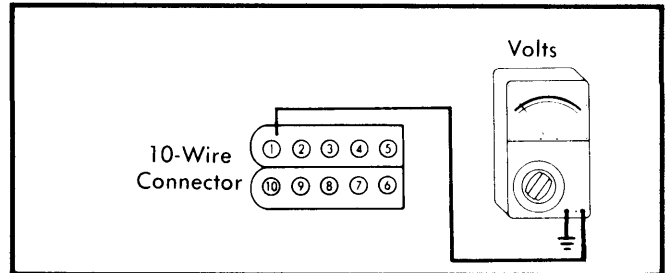

Fig. 8 Voltmeter Hook-Up for Checking Terminal 1 Voltage
6) If spark results, but engine will not start, turn ignition switch to the "RUN" position. Connect positive voltmeter lead to terminal 1 of 10-wire connector and negative lead to a good ground. See Fig. 8. Reading should be within 1 volt of battery voltage. If not, check wire for open circuit. Repeat this step after repairing wire. Reconnect 10-wire connector to computer.